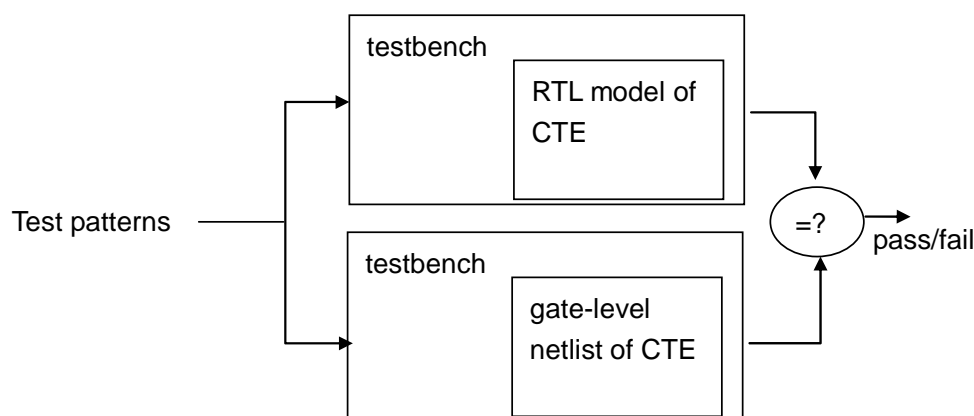

Figure 1. Verification of CTE controller
**B)** To verify your synthesized gate-level design is correct, please use the testbench from HW2 to run the simulation on both the RTL and gate-level designs. Use the verification flow like Fig. 1. Show that your synthesized design produces the same output as your RTL design. Please try both "testfixture1.v" and "testfixture2.v" and go through different test patterns.